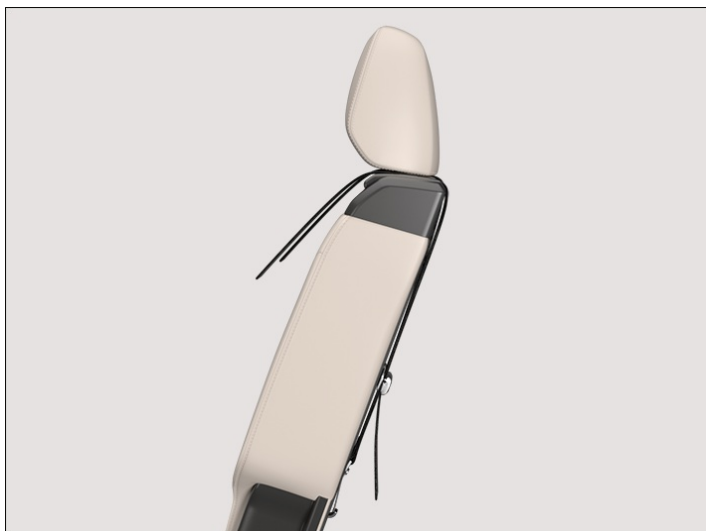

Fig. 4 On the rear of the outer seats of the rear bench seat or front passenger seat: attached top tether.
6. Hook the top tether of the child seat into the corresponding anchor point marked with "Top Tether" → Fig. 4.